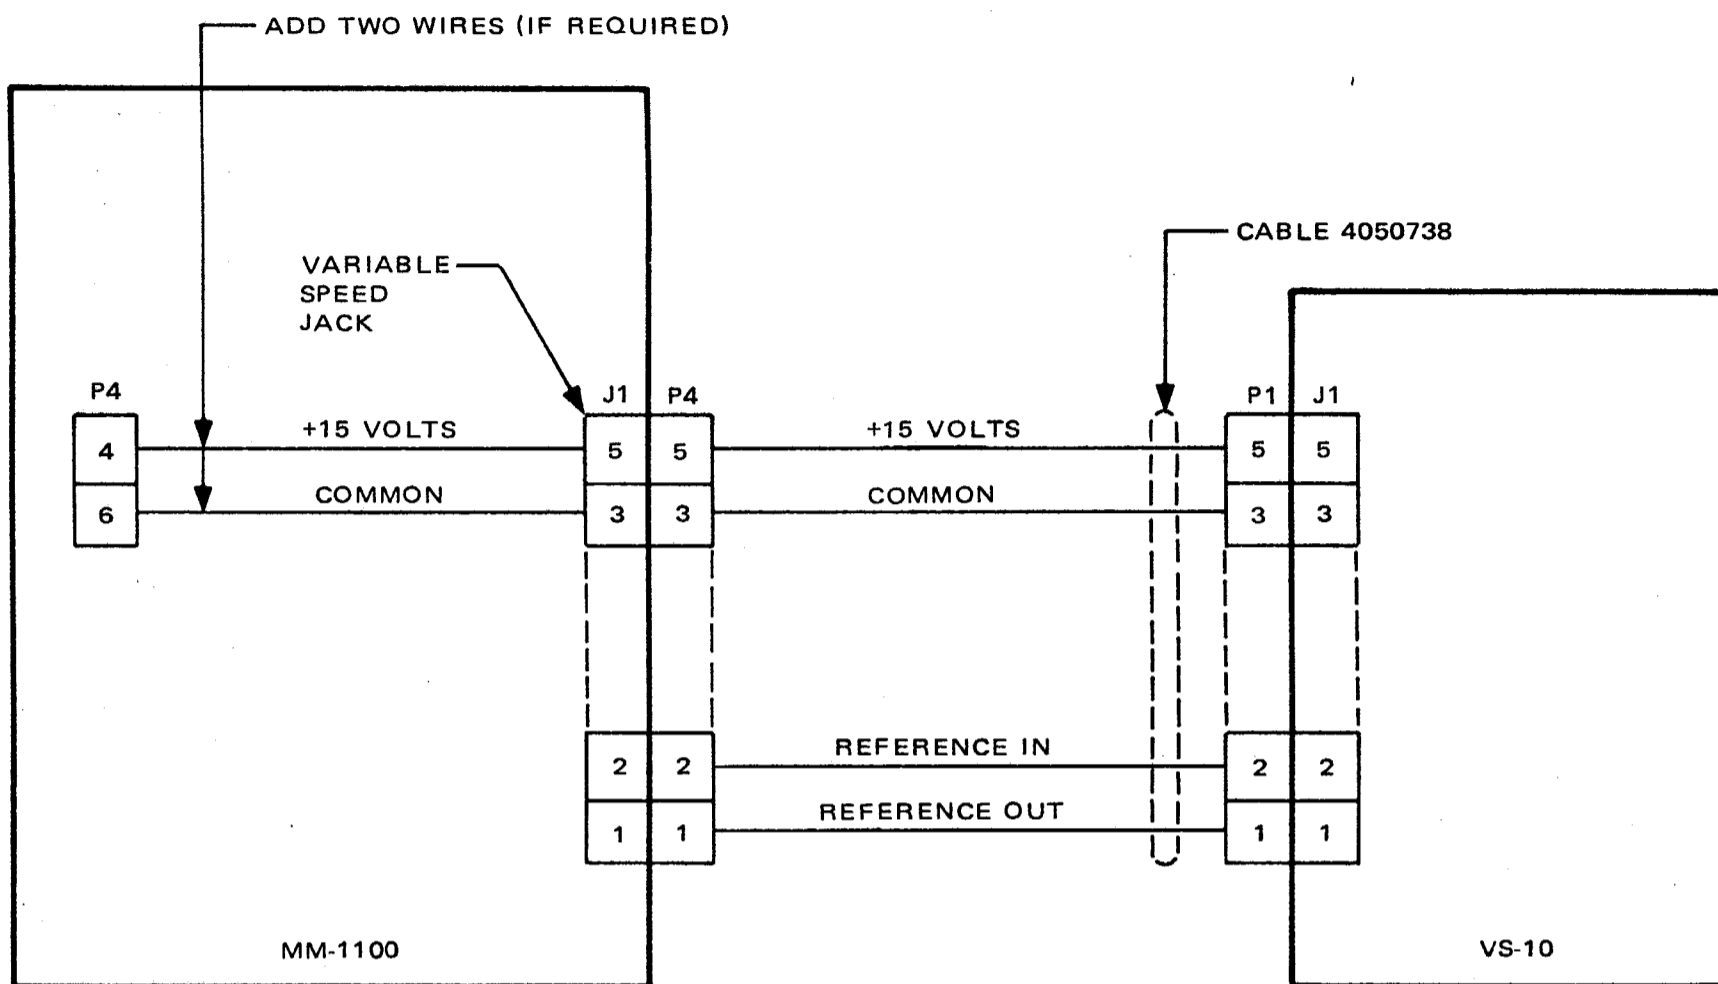

Figure 3. MM-1100 Interconnect Diagram
1. See Figure 3. Add two number 22 AWG wires to pins 3 and 5 of the VARIABLE SPEED connector J1 located on the power connector panel. Connect the other ends to pins 6 and 4 of plug P4 cable harness which connects to the 15/27 volt power supply.